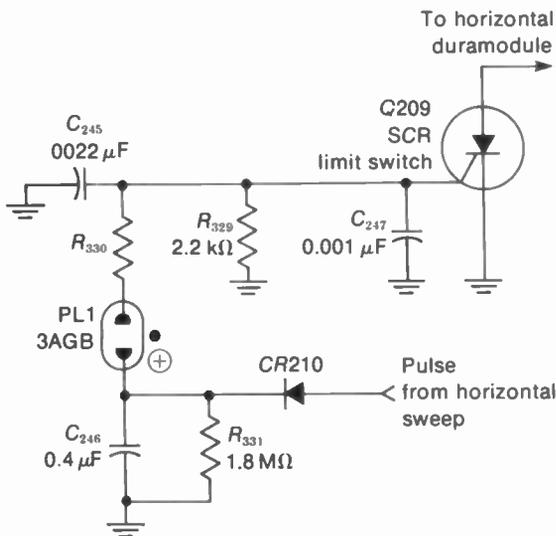

FIGURE 22-30 SCR AS LIMIT SWITCH TO DISABLE HORIZONTAL SCANNING WITH EXCESSIVE HIGH VOLTAGE. (FROM ZENITH CHASSIS 25DC57)
Several different methods have been employed to meet this requirement. When the high voltage exceeds a predetermined level, some sets will blank the video, while others will cause a loss of sync. In the example of Fig. 22-30, the SCR limit switch disables the horizontal sweep, causing a complete loss of high voltage and no brightness. Not only does this make the picture unviewable, it removes the cause of the potential radiation.
In Fig. 22-30, a positive pulse from the horizontal output transformer is rectified by CR210 to charge  $C_{246}$ . During the time the pulse is applied, CR210 is biased on and  $C_{246}$  charges rapidly through the low resistance of the diode. Between pulses,  $C_{246}$  discharges slowly through the high resistance of  $R_{331}$ , equal to 1.8 M $\Omega$ . With normal high-voltage levels, the average charge on  $C_{246}$  is not high enough to ionize the neon bulb PL1.
16. Give the function of the circuit in Fig. 22-30.